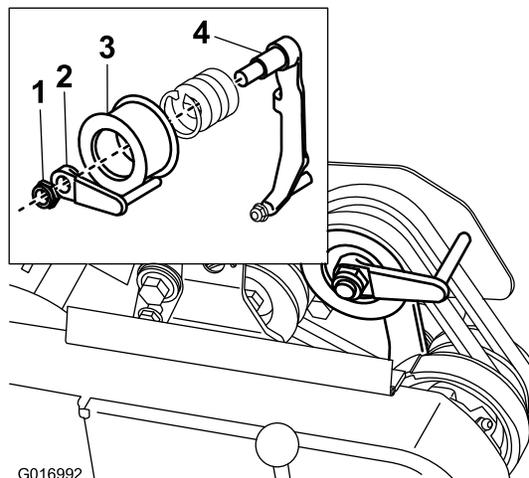

Figure 40
8. To push or pull the machine easier without starting the engine, adjust the belt guide (Figure 40, inset) as follows: